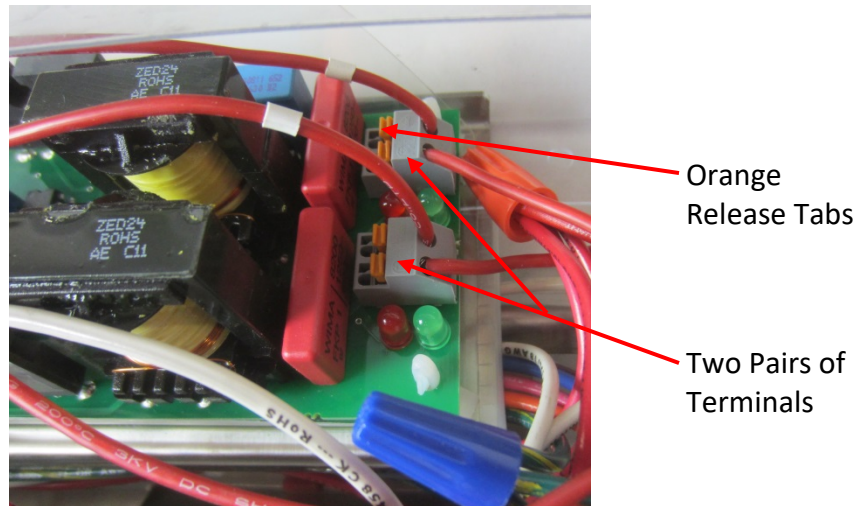

Figure 6-24-1
10. Remove the four Lamp wires from the Lamp terminals on the right end of the Ballast by using a small screwdriver and pushing down on the small orange release tabs and then pulling straight up on the wire (Refer to Figure 6-24-1). **Important Note: Do not remove any of the wires from the terminals at the left end at this time.**